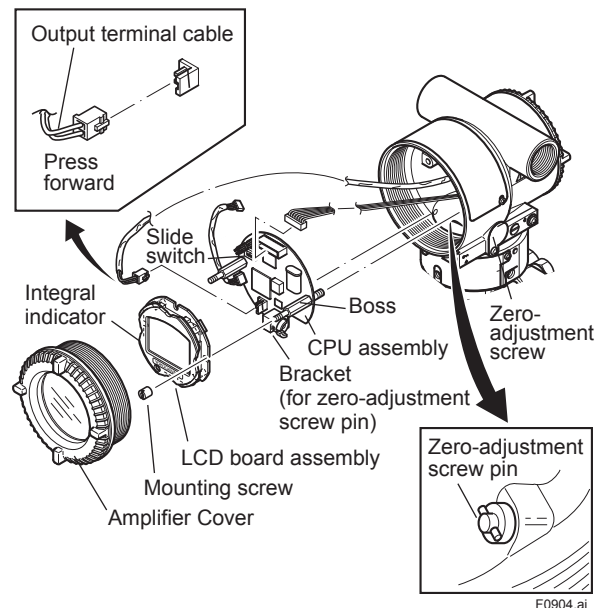

Figure 9.4 Removing and Attaching LCD Board Assembly and CPU Assembly (HART Communication Type)
This subsection describes the procedure for replacing an integral indicator. (See figure 9.4)
This subsection describes the procedure for replacing the CPU assembly. (See figure 9.4)
- 2) Turn the zero-adjustment screw to the position (where the screw head slot is horizontal) as shown in figure 9.4.